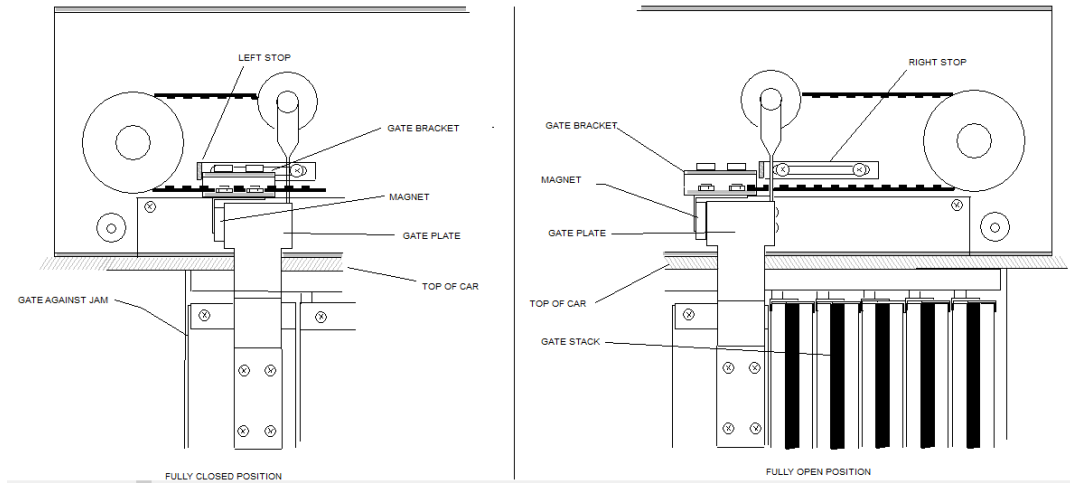

Figure 7 - Left Hand Operator
7. With the Gate Bracket flush against the STOP as in Figure 7- Left Hand Operator (Fully Closed Position). Check that the Gate is flush against the jam of the entry to the car. If not, adjust the Gate Operator assembly until the Gate is flush.
10. Adjust the LEFT STOP so it is against the GATE PLATE as shown in Figure 7- Left Hand Operator (Fully Open Position).